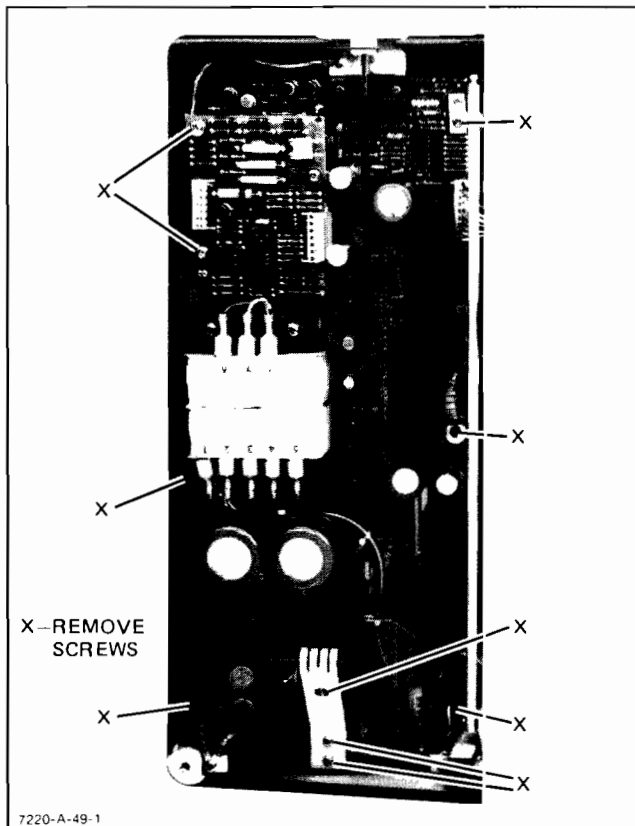

Figure 6-36. Power Supply Assembly Removal
- b. Remove the 6-32 screw securing the safety cover over the Primary PCA A5. See Figure 6-36. Remove the cover.
- g. Remove the two 6-32 \times 1 3/8 screws extending through the Chart Hold PCA into the lower case assembly. See Figure 6-36.
- h. Remove the 6-32 screw securing the ground cable to the forward switch bracket. See Figure 6-36.